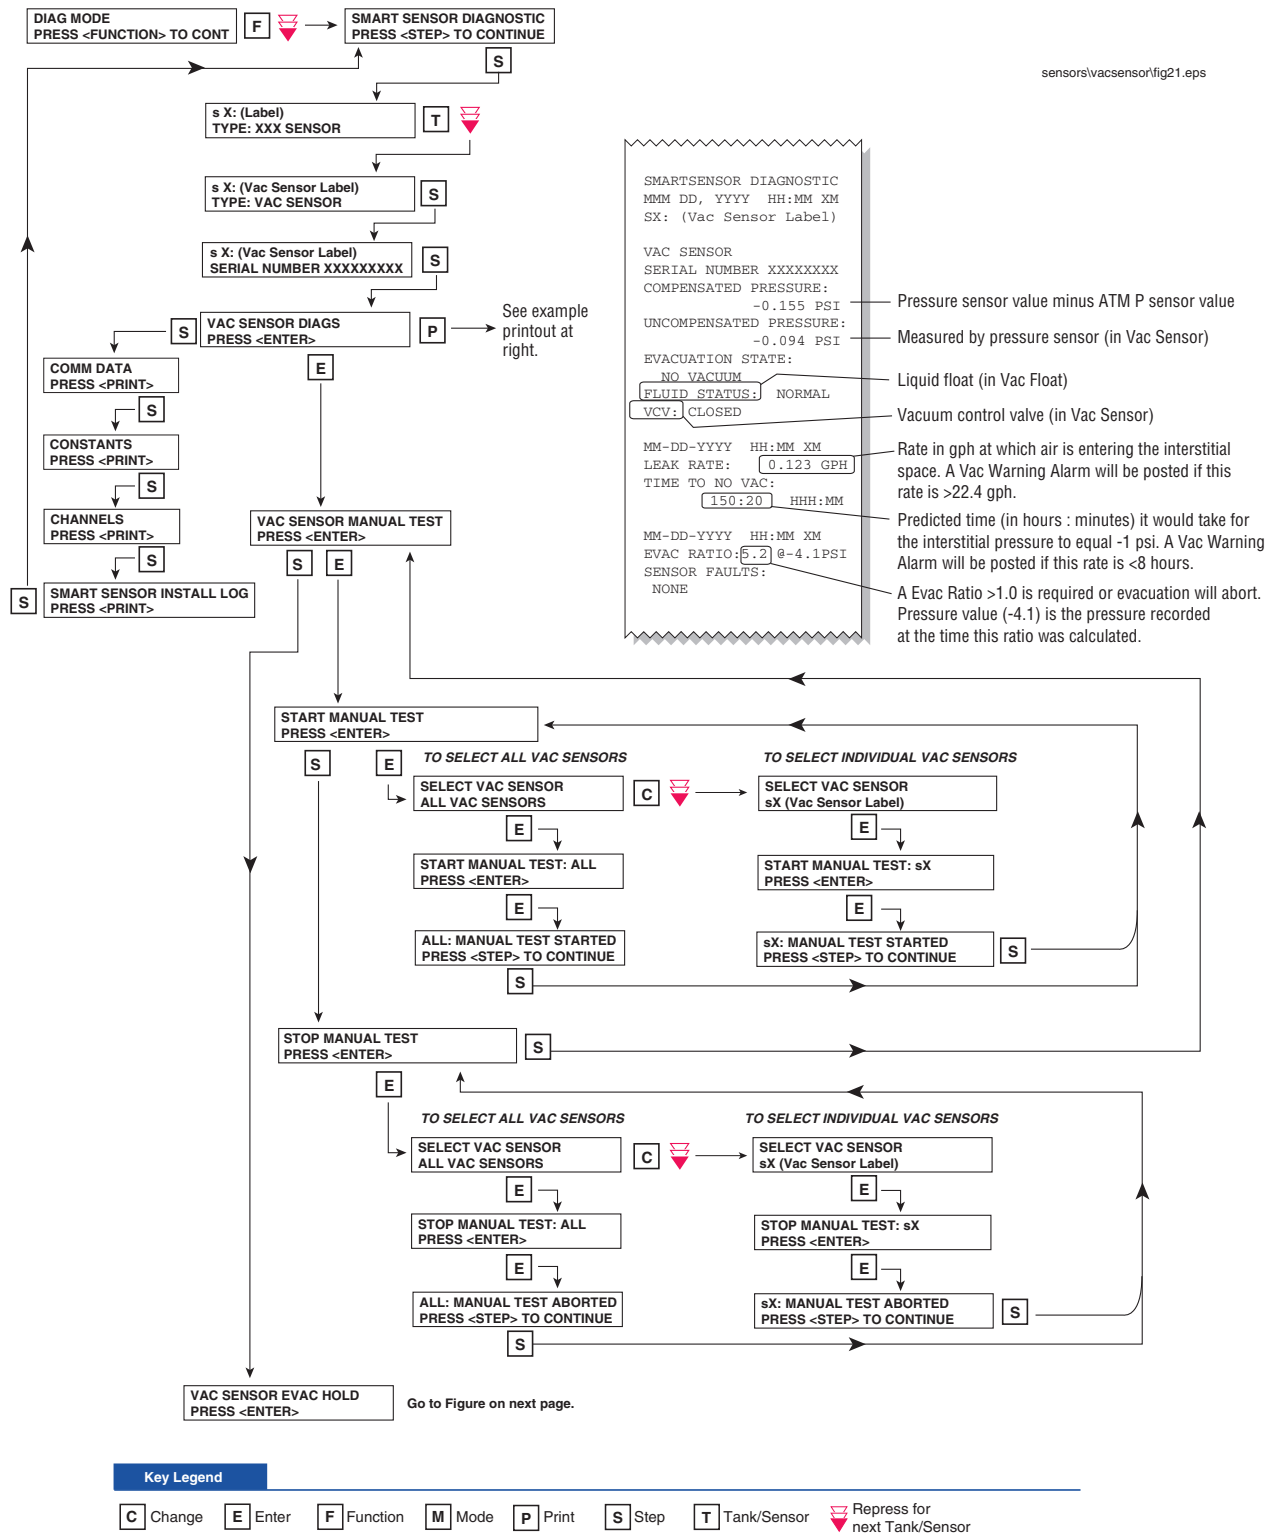

Figure 19. TLS Console Vac Sensor Manual Test
Figure 19 displays the Vac Sensor Manual Test procedure steps and Figure 20 displays the Vac Sensor Evac Hold procedure steps.
4. At the console enter the DIAG MODE and initiate a manual test that will clear the 'No Vac' alarm (Refer to Figure 19 for Manual Test instructions).